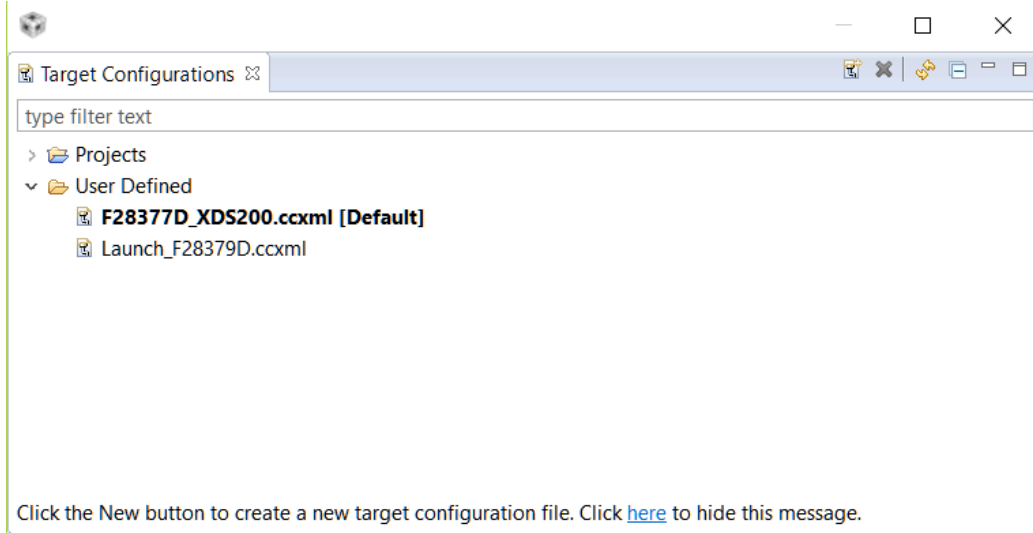
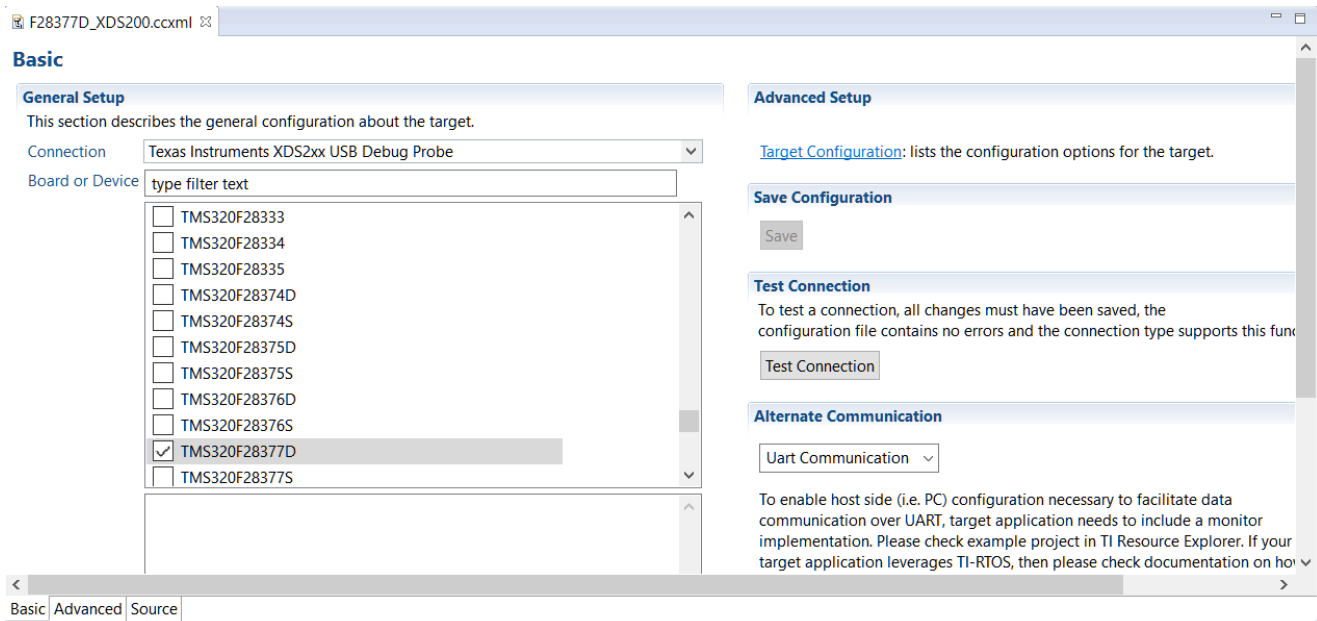

Figure 5-2. Target Configurations View
Figure 5-3. Test Connections
- Check Target Configuration:** The Target Configuration File (.ccxml) contains the information necessary to connect to your target device and the JTAG debug probe being used. To view the current target configurations, select Target Configurations (Figure 5-2) under the "View" tab in CCS. Double click on the .ccxml corresponding to the target that is being debugged. If the drivers for the debug probe are installed correctly and the correct options are selected, the Test Connections button (Figure 5-3) should be available and ready to execute. The datalog from this test can assist in isolating the cause for the connection issues, do not skip this step. Note that many example projects are installed as part of C2000Ware or controlSuite have a "target configs" folder. This has a .ccxml file pre-created based on a an assumption of a default EVM and debugger. This file is used when the "Debug" icon is used to launch the debug session. If the "Debug" button is the desired method to launch the debug session, the .ccxml in "target configs" need to be modified.